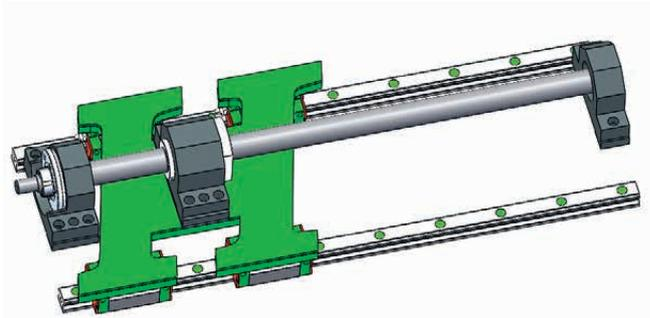

Fig. 4.18 Ballscrew at the left stop for aligning the fixed bearing
- ▶ Move the application as close as possible to the fixed bearing (see Fig. 4.18).